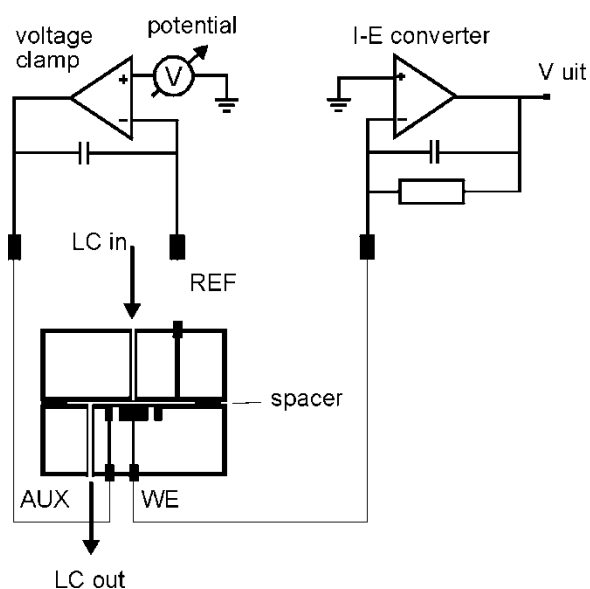

Fig. 2. Schematic representation of an electrochemical cell with a three-electrode configuration.
In the VT-03 flow cell a three-electrode configuration is used (Fig. 2). The working potential is set between the working electrode (WE) and the auxiliary electrode (AUX). The AUX is kept at a precisely defined reference electrode (REF) potential by means of the so-called voltage clamp. This is an electronic feed back circuit that compensates for polarisation effects at the electrodes. At the WE, which is kept at virtual ground, the electrochemical reaction takes place, i.e. electrons are transferred at the WE. This results in an electrical current to the I/E converter, which is a special type of operational amplifier. The output voltage can be measured by an integrator or recorder.